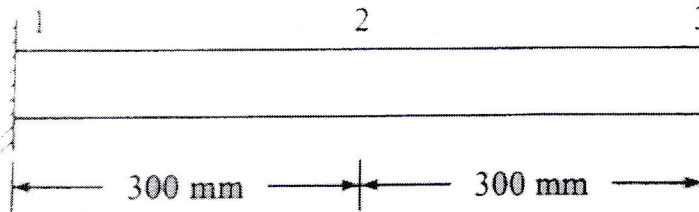

Figure 5
11. Evaluate nodal frequency of the beam shown in Figure 5. Use two element model and take $E=210 \text{ GPa}$, weight density 7800 kg/m^3 , $A=400 \text{ mm}^2$, and $I= 5000 \text{ mm}^4$. [10]